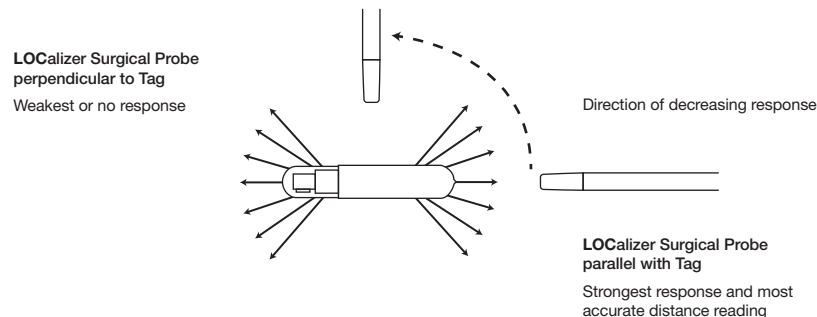

Figure 4. Assessing Tag location/position with Surgical Probe using signal strength (not to scale)
** As measured from end of the Surgical probe to end of Tag (*Figure 4*)